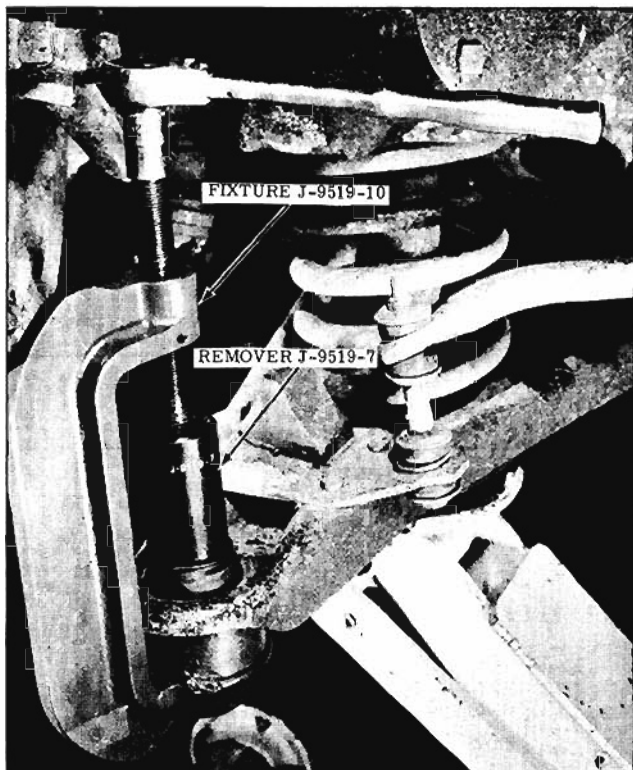

Fig. 9-28 Removing Lower Ball Joint
- Remove ball joint seal and press ball joint from control arm as shown in Fig. 9-28.